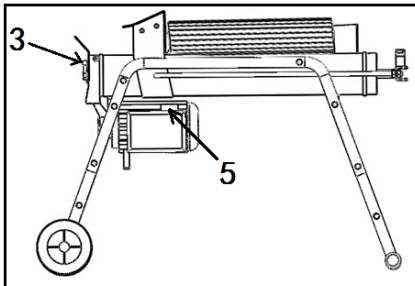

Fig. 8
This log splitter is equipped with control system that requires to be operated by both hands of the user – left hand controls the hydraulic control lever (3) while right hand controls the push button switch (5) as shown in Fig. 8. The log splitter will freeze upon absence of either hand. Only after both hands release the controls, the log pusher starts to return backward to the starting position.